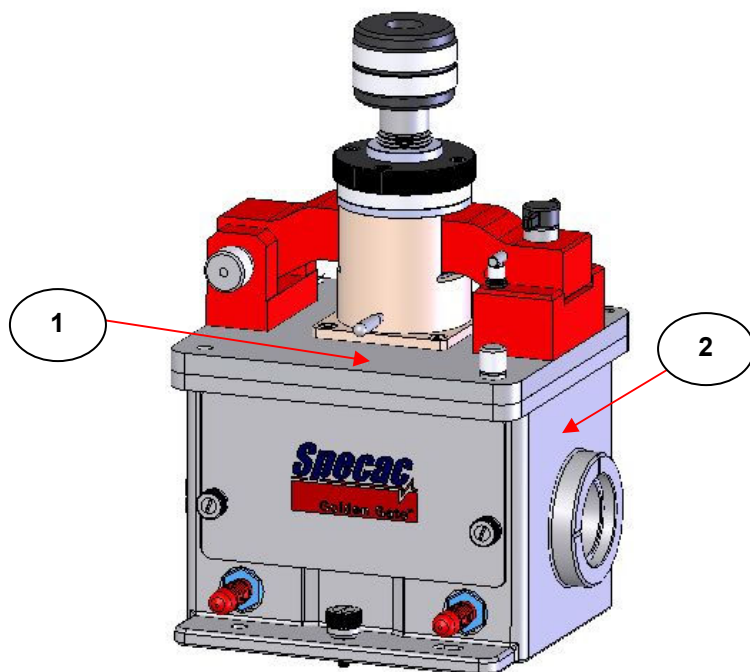

Fig 2. Envirochamber Golden Gate™ ATR Accessory
If the Heated Envirochamber Golden Gate™ ATR Accessory under P/N GS10662 has been supplied then the Heated Envirochamber Golden Gate™ top plate (1) is already fixed to the Golden Gate™ optical unit (2) (see Fig 2.) and the whole is mounted on an appropriate Benchmark™ type baseplate within the sample compartment of a Spectrometer. (See installation procedure of the Golden Gate™ optical unit for your Spectrometer from the Golden Gate instruction manual (P/N GS10500)).